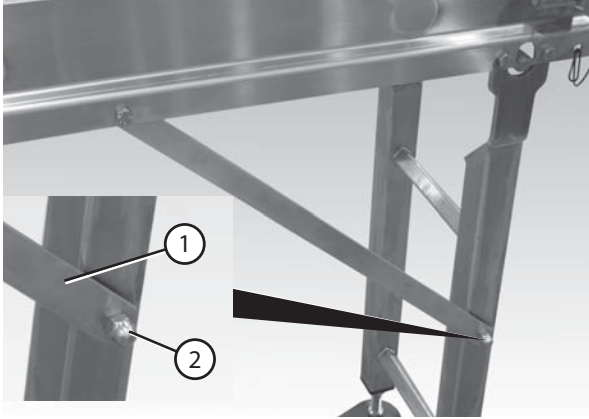

Figure 16
1. Attach the bracing bar (Figure 16, item 1) to the stand and secure it with an M10 acorn nut (Figure 16, item 2).